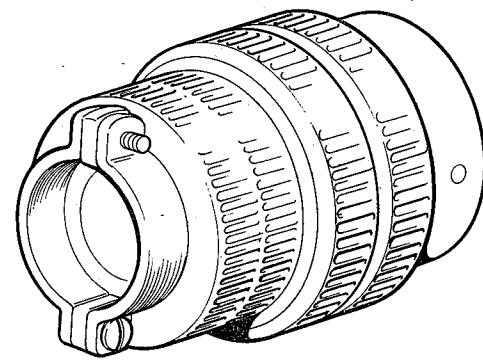
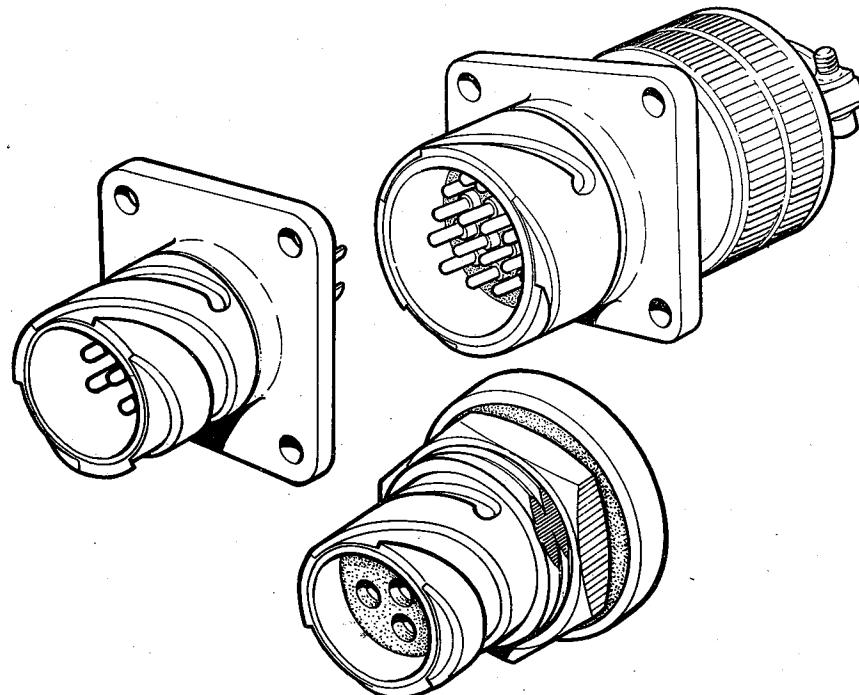

Fig. 1. Typical plug, showing strain relief clamp
Fig. 2. Typical receptacles
1. The range of Amphenol connectors in the 67 Series covers multi-contact miniature connectors of the quick-disconnect bayonet-lock type. The connectors are available as plugs, cable and panel receptacles and single hole mounting receptacles in five contructions, five shell sizes and 17 insert configurations with up to 48 contacts. Environmentally sealed types have moisture, insulation and environment resistance to U.S. Spec. MIL-C-5015 and are available with unitized back end grommet or with provision for potting. A typical free plug (06C) is shown in Fig. 1 and typical fixed receptacles (00C, 02E, 03E) are shown in Fig. 2.